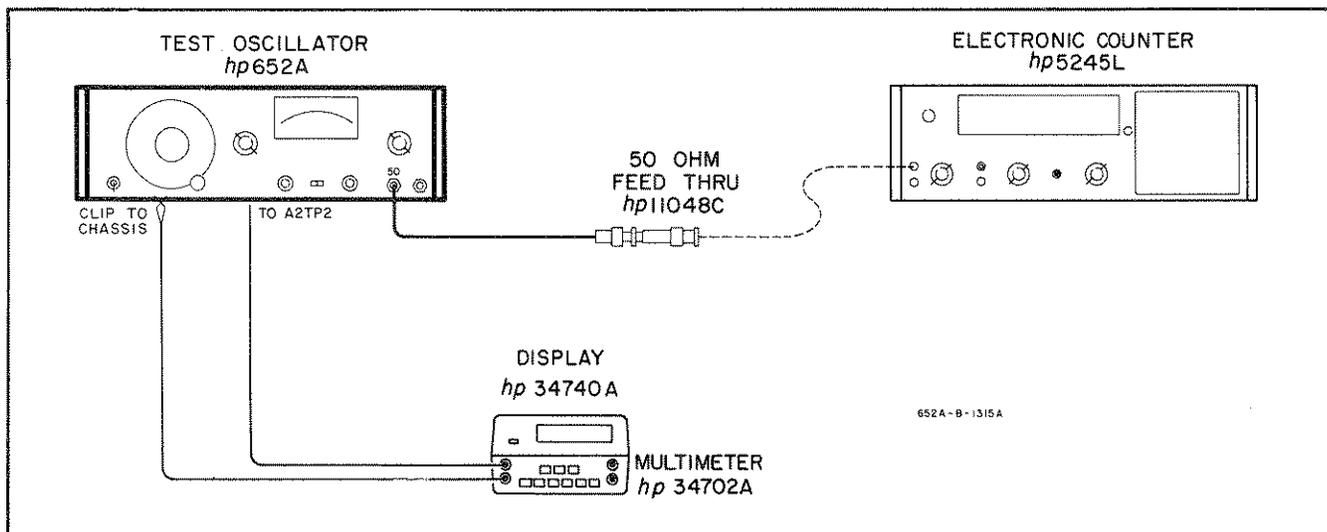

Figure 5-8. Frequency Calibration.
c. The frequency calibration setup is shown in Figure 5-8. Output frequency should be continuously monitored at the 50 ohm output with a counter. DC voltage at A2TP2 should also be monitored continuously, after Paragraph 5-28 has been performed.
- c. Connect equipment as shown in Figure 5-8 and set 652A controls same as Paragraph 5-28b.
- a. Connect equipment as shown in Figure 5-8.